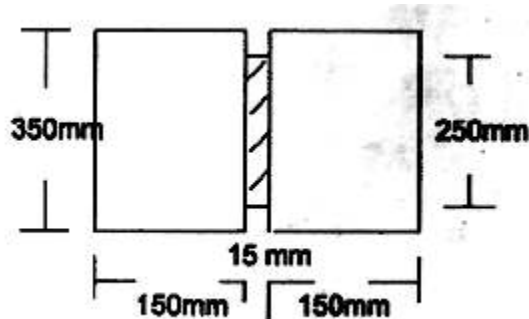

Fig. 8
- (b) A flitched beam consists of two timber joists 150 mm wide and 350 mm deep with a steel plate 250 mm deep and 15 mm thick fixed symmetrically between the timber joist. Calculate moment of resistance of flitched beam if allowable stress in timber is 7 N/mm^2 . Take $E_s = 20 E_t$. Refer Fig. 8. [8]